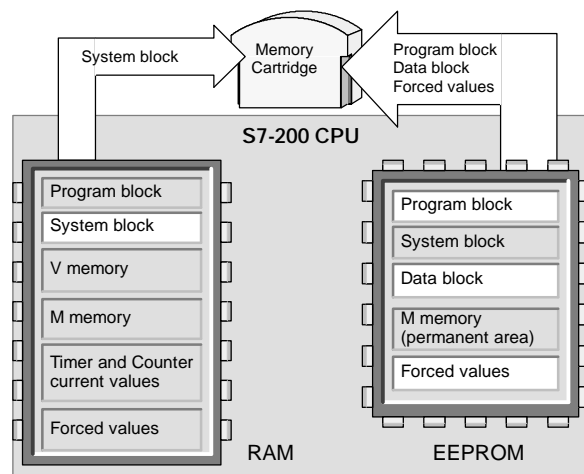

Figure 4-18 Copying to a Memory Cartridge
3. Select the PLC > **Program Memory Cartridge** menu command to copy the program to the memory cartridge. Figure 4-18 shows the elements of the CPU memory that are stored on the memory cartridge.